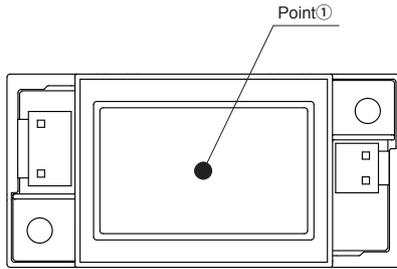

Fig.6.4 Temperature measurement point (TECS10F/20F-N)
- Please refer to Fig 6.4 and 6.5 for the position of Point ①. “Maximum temperature of measurement points”, “Life expectancy” and “Warranty” is different from standard models. Please refer to Table 6.4 to Table 6.15.